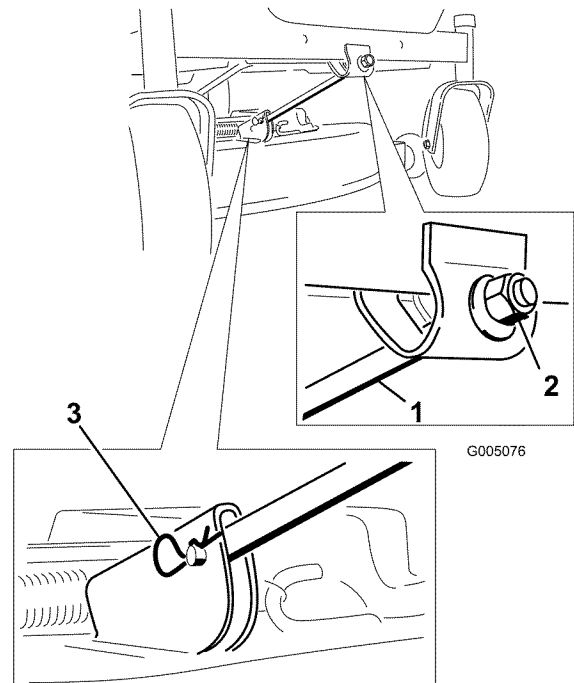

Figure 45
4. Remove the hairpin cotter and clevis pin from the front support rod (Figure 45). Carefully lower the front of the mower deck to the ground.
- 6. Attach the front support rod to the mower deck with the clevis pin and hairpin cotter (Figure 45).